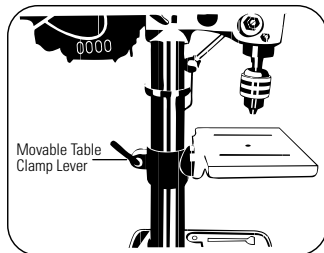

FIGURE 7.9
- When the desired height is reached, tighten the Table Clamp Lever firmly so that the Table **6** does not move (Figure 7.9).
- Loosen the Table Clamp Lever (Figure 7.9).